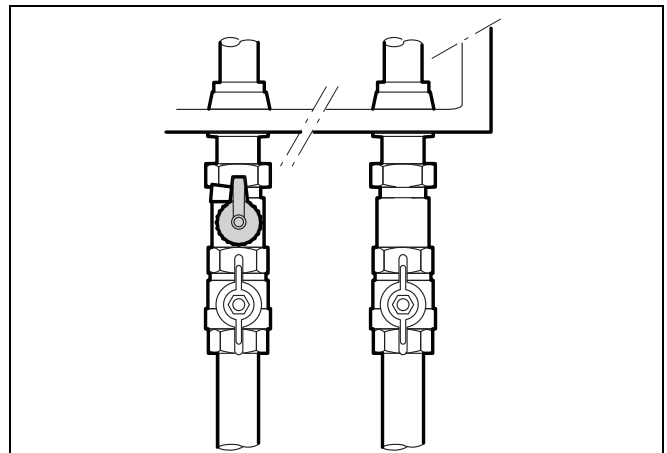

fig. 83 Draining the Logamax plus GB142
- Close the maintenance shut-off valves and drain the Logamax plus GB142, see 116, fig. 83.